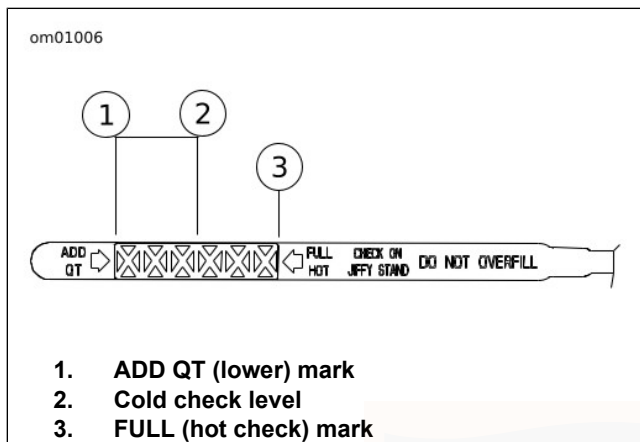
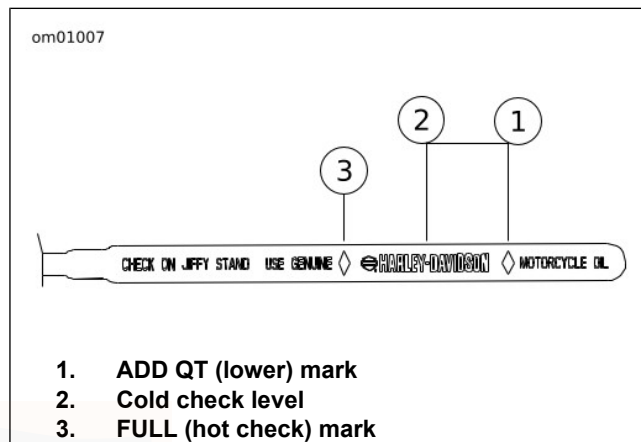

Figure 46. Engine Oil Dipstick
Figure 47. Engine Oil Dipstick (Sidecar Use)
3. See Figure 46. Remove the dipstick and verify the level of the oil. The correct oil level should register between the two marks on the dipstick. If sidecar is attached, check oil level using the opposite side of dipstick as shown in Figure 47.
4. See Figure 46. Remove the dipstick and note the level of the oil. If sidecar is attached, check oil level using the opposite side of dipstick as shown in Figure 47. Add only enough oil to bring the level to the FULL mark on the dipstick. Do not overfill.
The engine oil dipstick has different markings on its two sides. Figure 46 shows the engine oil level when the motorcycle is on its jiffy stand. Figure 47 shows the engine oil level with a sidecar attached (motorcycle upright).